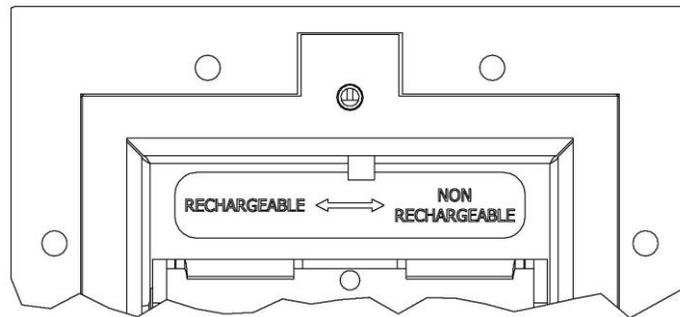

Figure 5-3. Battery Selection Switch
Ensure the battery selection switch (Figure 5-3) is in the correct position for rechargeable or non-rechargeable batteries.
6.5 LOW POWER. If the message "Low Batt" is shown on the display, then it is likely that the primary batteries need to be replaced or recharged. Ensure that when replacing batteries (Section 5.2), the battery selection switch (Figure 5-3) is in the correct position for rechargeable or non-rechargeable batteries. Alternatively, operation is possible if the external AC/DC power supply is properly connected into a source of 85-250 VAC power.